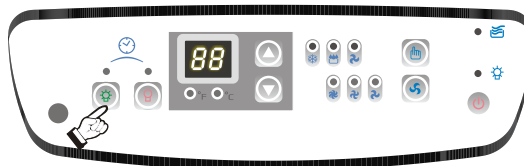
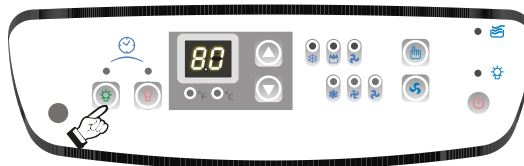

Fig. 21
Fig. 21a
- 6) Press the  **TIMER-ON** key pad to initiate the **AUTO-ON** time sequence Fig. 21. The display window will indicate **the time**. Press the  key to select the desired **AUTO-ON** start time. Fig. 21a.
- 1) Press the  **TIMER-ON** key pad to initiate the **AUTO-ON** time sequence. Fig. 21. The display window will indicate **the time**. Press the  key to select the desired **AUTO-ON** start time. Fig. 21a.